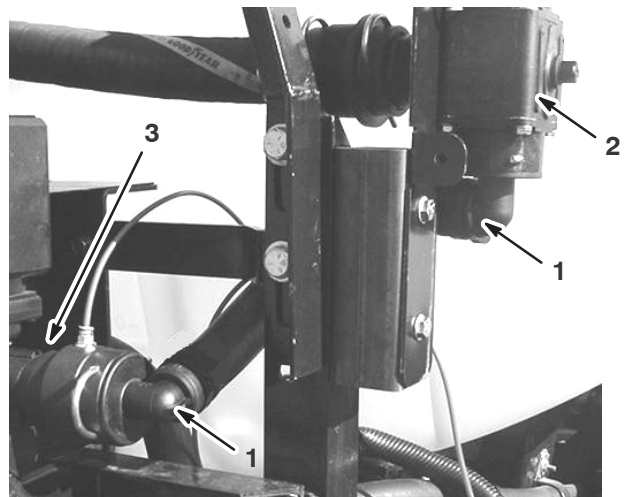

Figure 10
5. Install the short hose assembly to the bottom of the control valve and to the boom supply valves, securing it with one previously used retainer and one new retainer (Fig. 10).